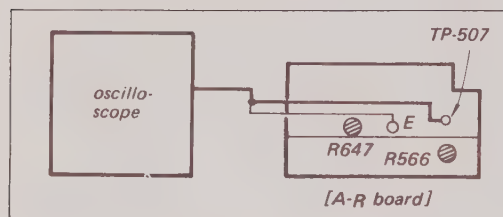

Fig. 8-12. Color AGC blanking adjustment test setup
1. Connect the scope to TP-507 on the A-R board. See Fig. 8-12.